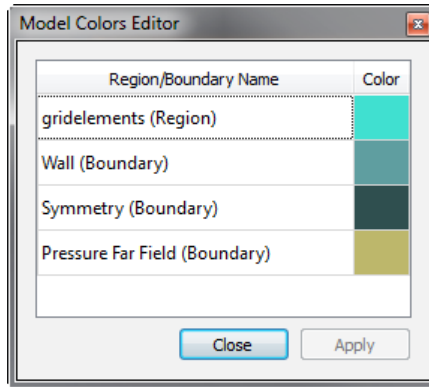

Figure 22.68: Models color editor
- Click on the *Model Colors Editor* button  (see Figure 22.68).